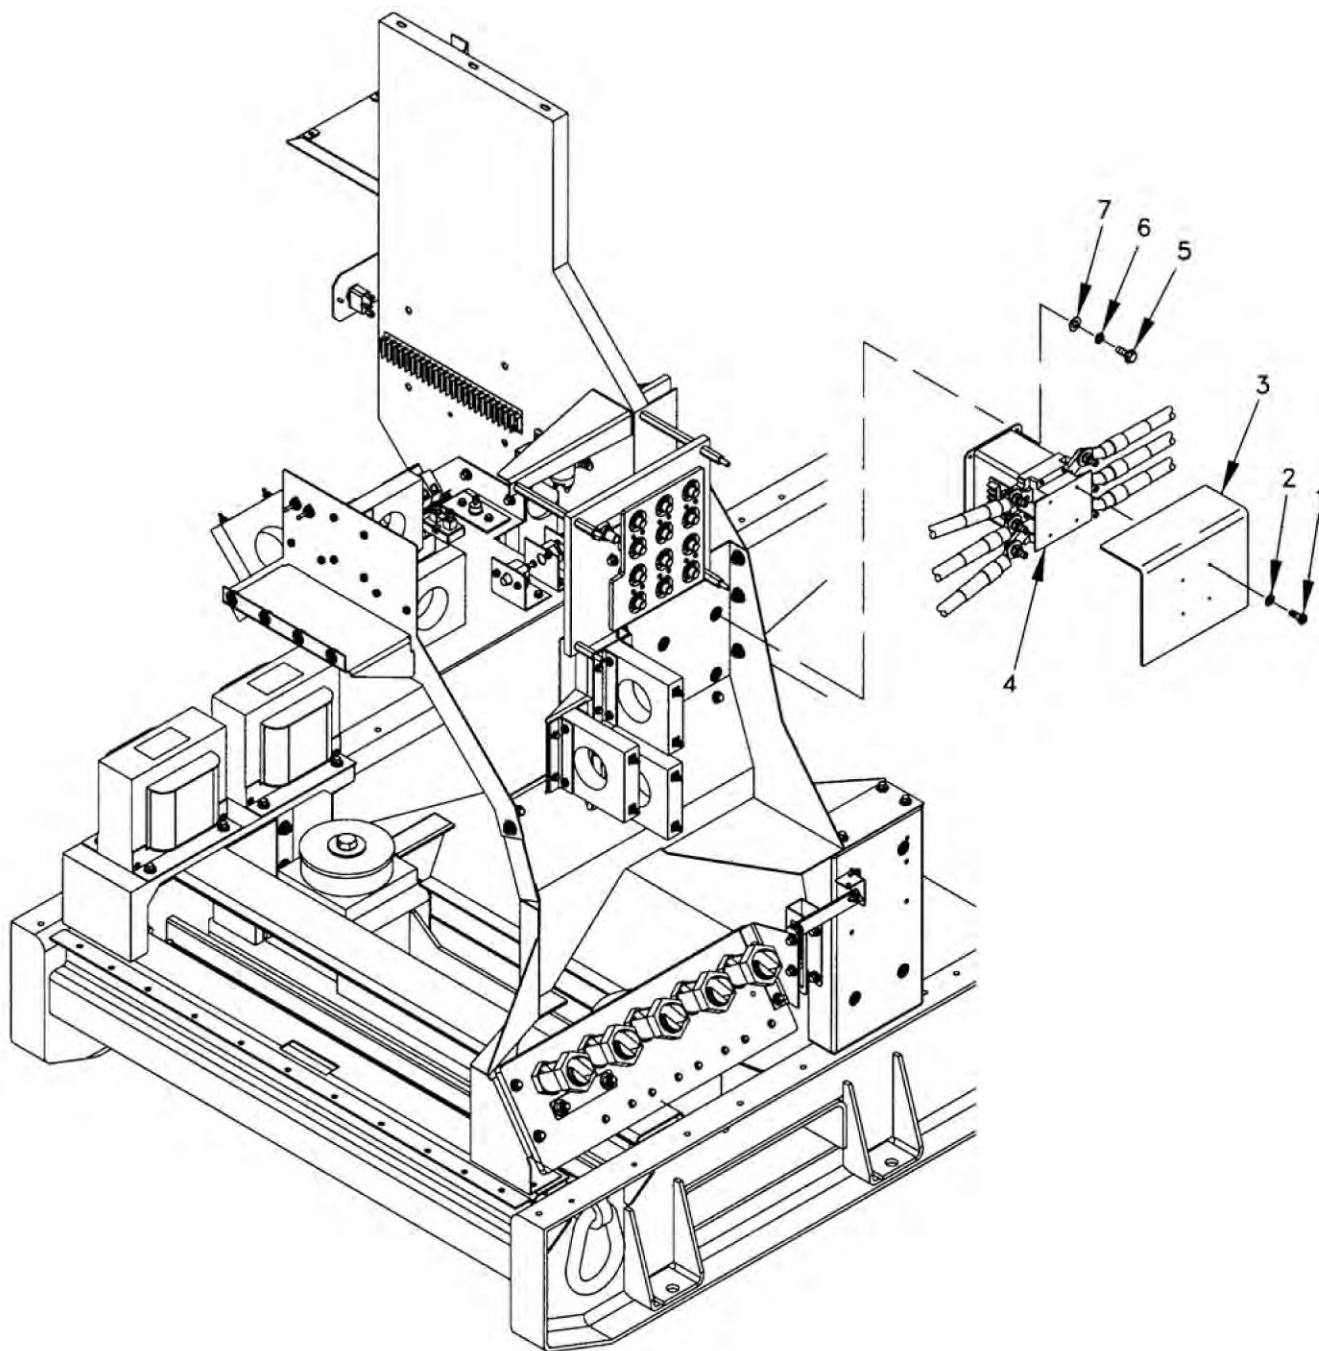

Figure 1. Main Load Contactor K1.
3. Remove four screws (Figure 1, Item 1), four lock washers (Figure 1, Item 2), and cover (Figure 1, Item 3).
4. Tag and disconnect cables and wires from main load contactor K1 (Figure 1, Item 4).
5. Remove four screws (Figure 1, Item 5), lock washers (Figure 1, Item 6), lock washers (Figure 1, Item 7), and main load contactor K1 (Figure 1, Item 4).
1. Install main load contactor K1 (Figure 1, Item 4) with four washers (Figure 1, Item 7), lock washers (Figure 1, Item 6), and screws (Figure 1, Item 5).
2. Remove tags and connect wires and cables to main load contactor K1 (Figure 1, Item 4).
3. Install cover (Figure 1, Item 3), four lock washers (Figure 1, Item 2), and screws (Figure 1, Item 1).